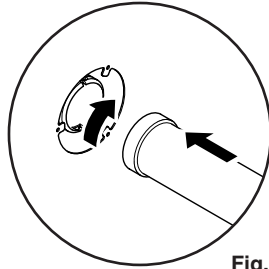

Fig. 26
2. Remove the blanking cap at the rear of the turret, by pushing and turning anti-clockwise to release the bayonet fitting (Fig. 26).
3. Locate the swaged end of the flue duct over the bayonet fitting on the turret, taking care not to damage the 'O' ring. Lock the flue duct in place by pressing in and turning clockwise (Fig. 26).